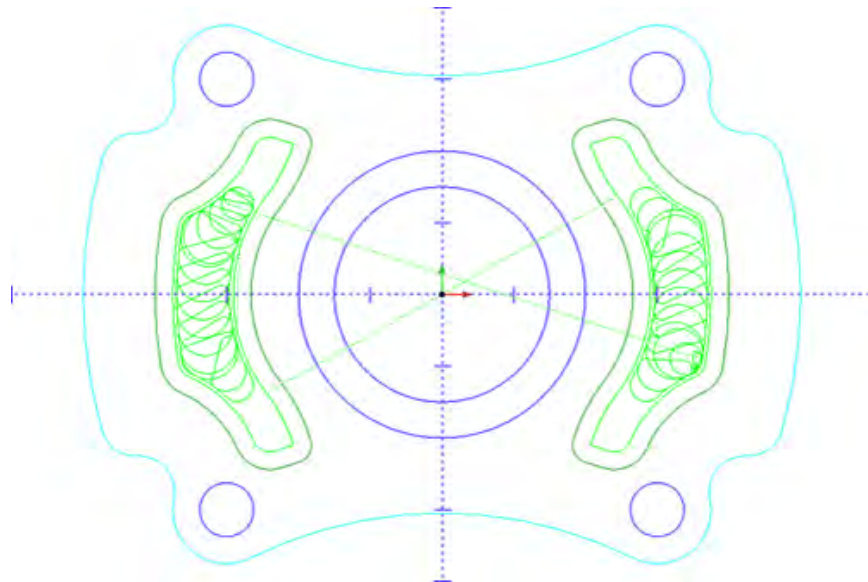

figure 6.1
6. Before we begin explaining the settings, right click on **Pocket High Speed** and click **Compute** tool path just using the default settings. The tool path will be displayed in the workspace (figure 6.1).